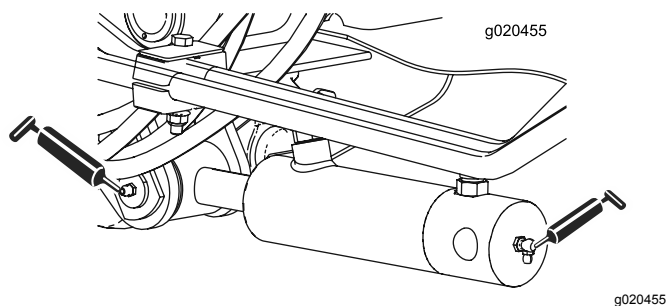

Figure 45
- 2 (each side) lift-arm-cylinder bushings (Figure 45)